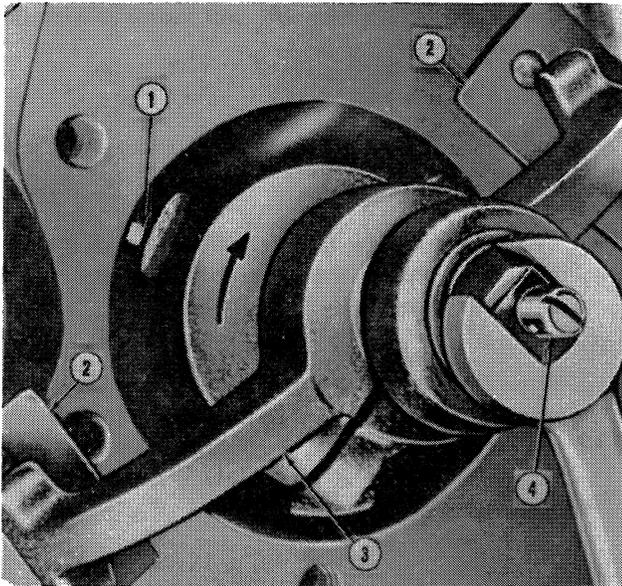

Figure 36
4. If necessary, remove the ridge from the top of each cylinder with a cylinder ridge reamer or a hand scraper, Figure 36. (Ridge removal is not necessary when reboring or if the old pistons are